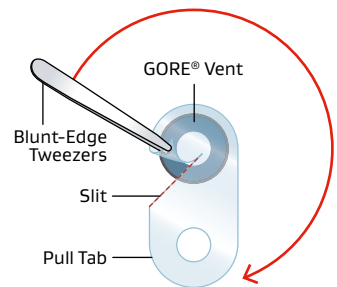

Figure 8: Removing Pull Tab with Slit
- If the pull tab has a slit, remove the pull tab at the slit, and continue to remove the rest of the tab in a circular motion (Figure 8).